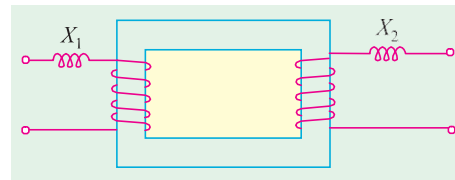

Fig. 32.27
As said earlier, the leakage flux linking with each winding, produces a self-induced e.m.f. in that winding. Hence, in effect, it is equivalent to a small choker or inductive coil in series with each winding such that voltage drop in each series coil is equal to that produced by leakage flux. In other words, **a transformer with magnetic leakage is equivalent to an ideal transformer with inductive coils connected in both primary and secondary circuits** as shown in Fig. 32.27 such that the internal e.m.f. in each inductive coil is equal to that due to the corresponding leakage flux in the actual transformer.
3. In an actual transformer, the primary and secondary windings are not placed on separate legs or limbs as shown in Fig. 32.27 because due to their being widely separated, large primary and secondary leakage fluxes would result. These leakage fluxes are minimised by sectionalizing and interleaving the primary and secondary windings as in Fig. 32.6 or Fig. 32.8.